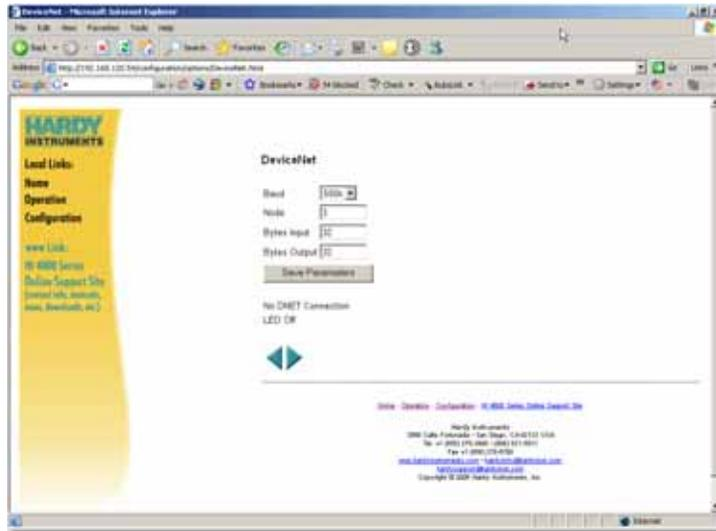

FIG. 216 DEVICENET PAGE
Step 1. From the Options Page click on DeviceNet. The DeviceNet Setup page appears. (See Fig. 216)